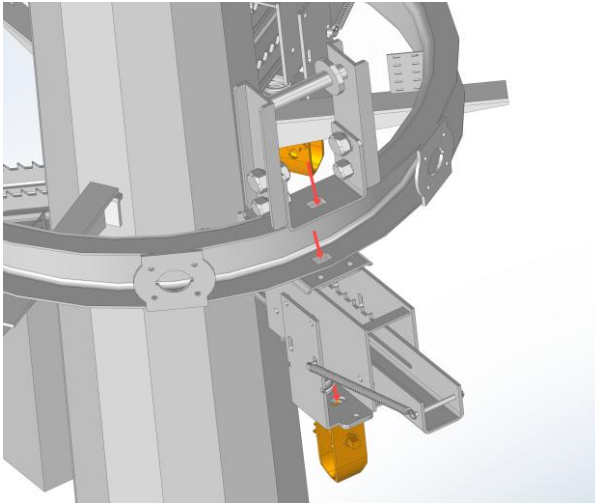
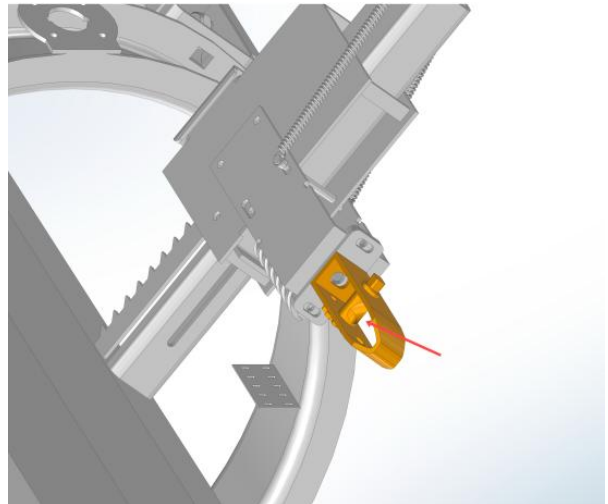

Figure 11
Figure 12
1. Keep each of the three suspension wire ropes aligned with its natural hanging position. Do not cross the ropes. Pass each rope through the centre hole in the carriage hook assembly shown in Figure 11, then down through the anti-fall device shown in Figure 12. Secure it to the carriage adjuster.